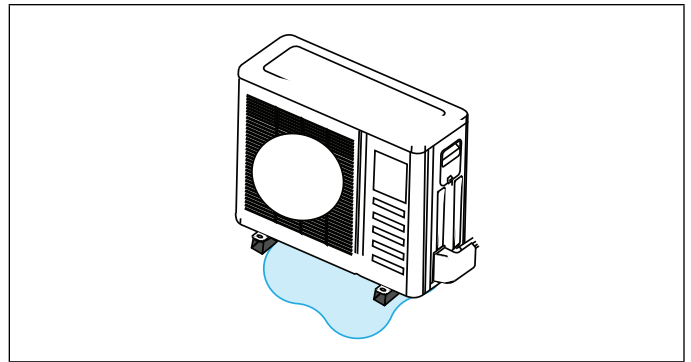

Figure 22. Avoid Defrost Water Ice Hazard
- Carefully consider how to manage defrost water disposal to prevent ice from blocking walkways or creating a safety hazard near the outdoor unit as illustrated in “Figure 22. Avoid Defrost Water Ice Hazard” on page 13